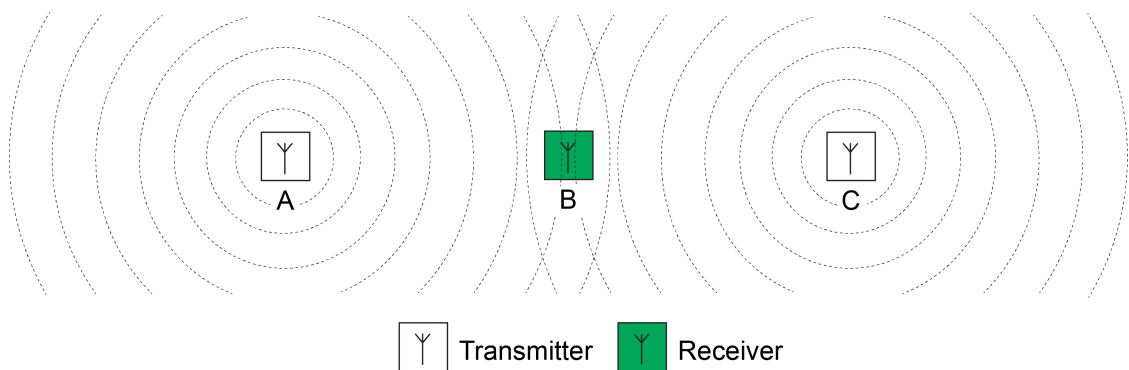

Figure 2: Radio collisions on the receiver due to the transmitter being too far away
The described transmission method for controlling media access generally prevents radio collisions in a KNX RF environment, but cannot exclude them completely. For example, it may occur that, in the case of a transmission between an RF transmitter (A) and an RF receiver (B), there is an additional RF transmitter (C), which is located within the range of the RF receiver, but cannot reach the other RF transmitter due to the spatial distance (Figure 2). In such a case, the two RF transmitters are unable to detect when the other transmits radio signals (Hidden Station Problem). In consequence, radio collisions can occur on the receiver located in the range of the two RF transmitters.